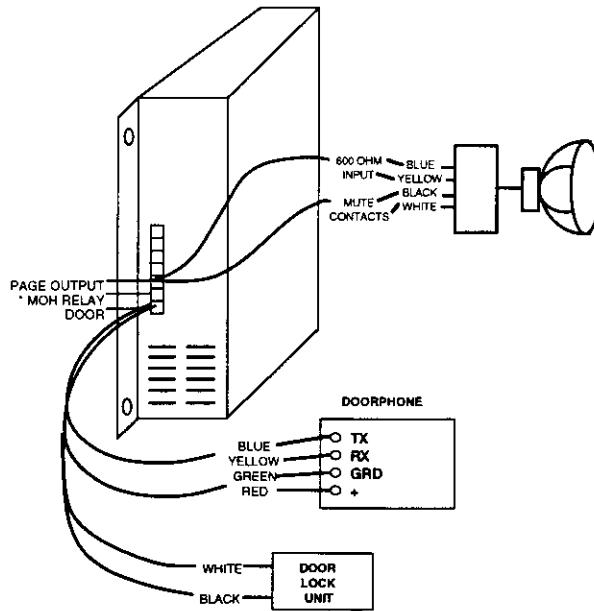

FIGURE 14
Note: Connect only DC voltage to the black and white wires. Use a slave relay if the door lock unit requires AC. KSU relay rating is 24 vdc, .5 amp. 330 (100m) with 24 AWG. See Figure 14.
1. The MOH plug between the page and the doorphone modular plug (Figure 14) is used to turn the external music audio output on and off. The yellow/black wires perform this function. When no calls are on hold, the source is turned off. No AC voltage. DC voltage only with slave relay! KSU relay rating 24 vdc, .5 amp.
4. Locate music source a minimum of five (5) feet away from KSU to prevent RFI interference.